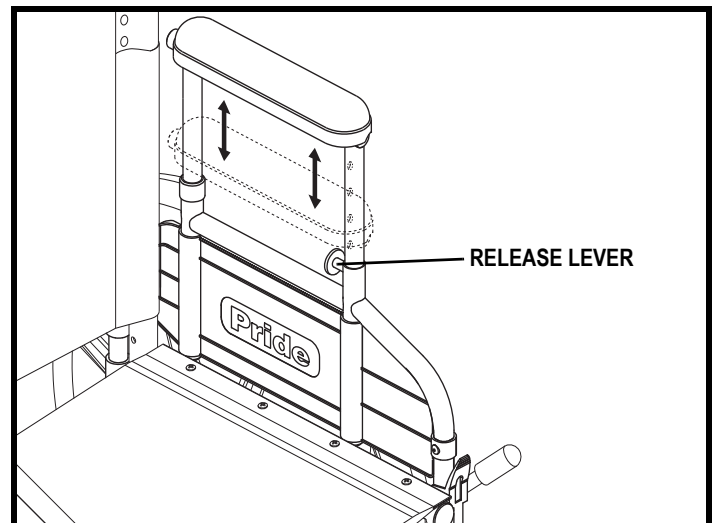

Figure 31. Dual-post Armrest Height Adjustment
1. Pull back the release lever that is located on the armrest in either direction. See figure 31.